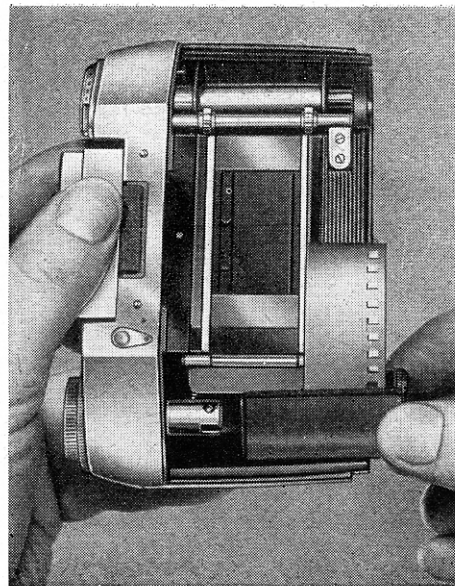

Fig. 20
chamber (23) (Fig. 20) and if necessary turn the rewind knob (15) slightly to ensure that the dog shaft (26) engages with the bar in the cassette core. The slot in the cassette through which the beginning of the film protrudes must lie against the guide plate (24). Remove the take-up spool (28) from the opposite film chamber (27) and push the beginning of the film beneath the retaining spring on the spool (Fig. 21); then wind the film round the core of the spool by half a turn. Replace the take-up spool (28) in the film chamber (27) and turn it slightly in the take-up direction to ensure that the friction coupling (37) of the shutter-tensioning lever (9) is gripping the bar across the end of the spool and that the spool is pushed right home into the film chamber.